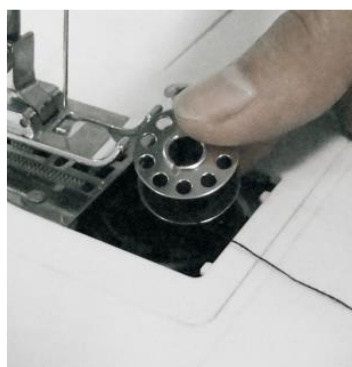

Fig.8
- 2) Put the new bobbin in the holder, with the thread going clockwise. Leave 10cm of thread hanging out (Fig.8).